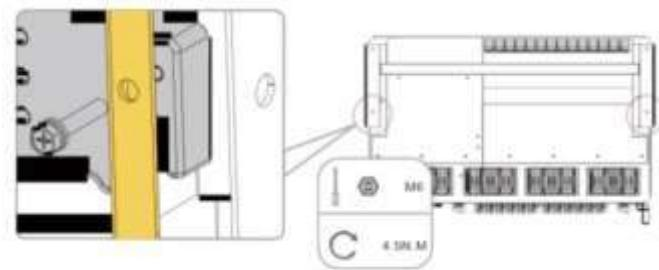

Fig. 4-14 Fix the invertir
- 7) Fix the inverter with two M6×35 screws (Fig. 4-14).
- 8) Fix the inverter with screws (Fig. 4-14).